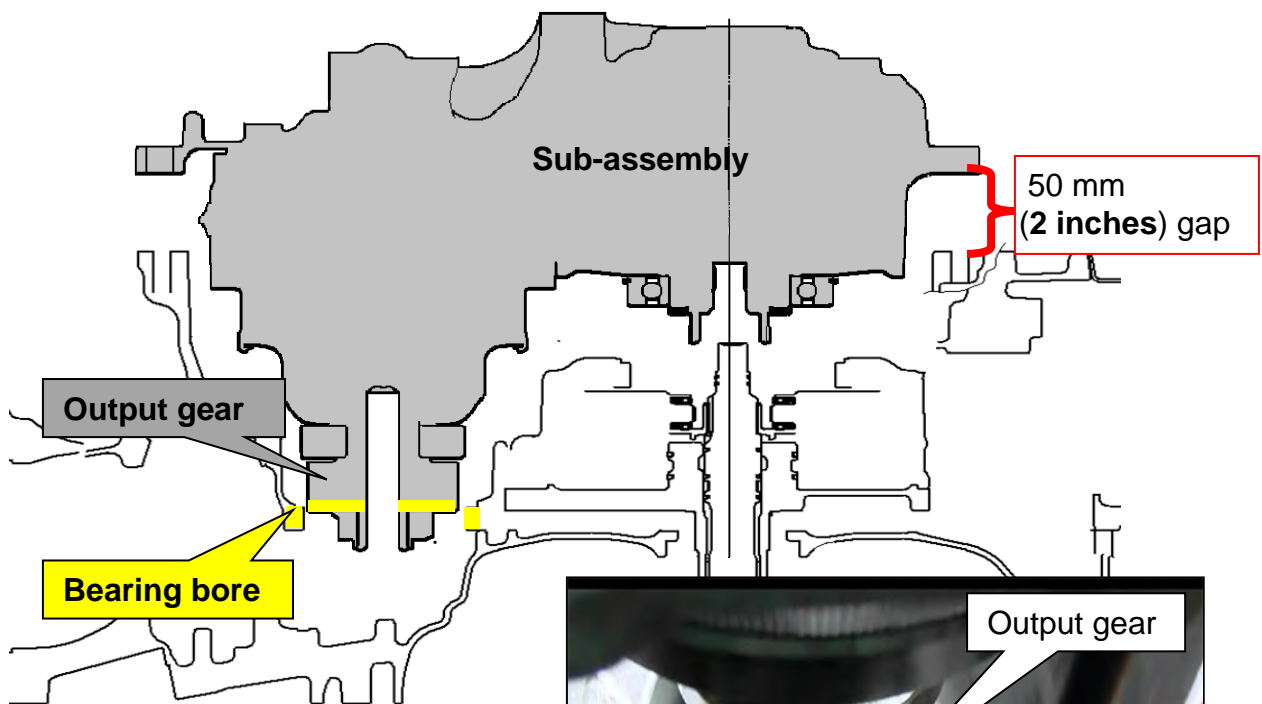

Figure 24E
- Interference is present between the output gear and bearing bore and are highlighted with yellow in Figure 24E and 25E.